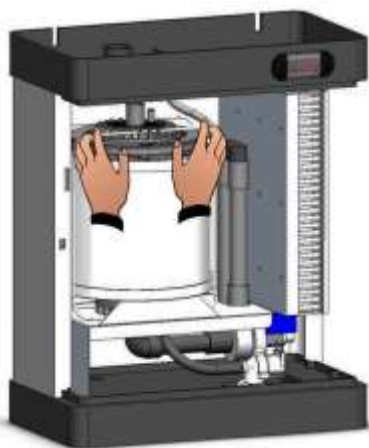

Fig. 27
2. Release the front fixing spring of the upper steam flange making it slide outside the cylinder (Fig. 27, 28, and 29).